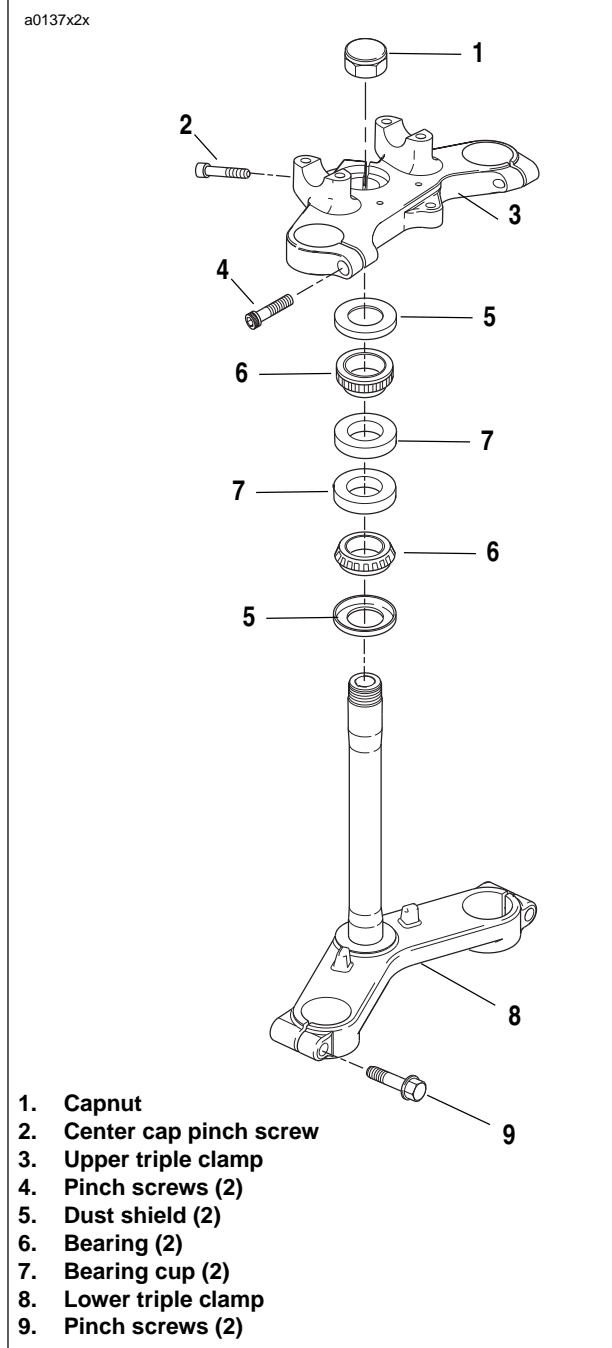

Figure 2-99. Fork Stem and Bracket Assembly
7. See Figure 2-99. Remove screw (2) and capnut (1).
8. Support lower triple clamp (8) and remove upper triple clamp (3).
9. Remove upper dust shield (5) and upper bearing (6).
11. Remove lower bearing (6) and lower dust shield (5) from lower triple clamp.
1. See Figure 2-99. Clean the dust shields (5), bearing cups (7), fork stem and lower triple clamp (8) and frame with solvent.
2. Carefully inspect bearing races and assemblies for pitting, scoring, wear and other damage. Replace damaged bearings (6) as a set (5, 6 and 7).
3. Check the fork stem and lower triple clamp (8) for damage. Replace if necessary.
2. See Figure 2-99. Liberally coat the bearings (6) with grease using WHEEL BEARING PACKER TOOL (Part No. HD-33067). Work the grease into the rollers.
- a. Place lower bearing dust shield (5) over fork stem.
- c. Press bearing (6) with small end up onto fork stem and lower triple clamp (8). Use the pipe as a press-on tool.
4. Insert lower triple clamp (8) through the steering head. Install the upper bearing (6) with small end down and dust shield (5) onto fork stem.
5. Apply LOCTITE 243 (Blue) to fork stem. Loosely install upper triple clamp (3) using cap nut (1).
7. Tighten cap nut (1) until the bearings have no free play. Make sure the fork stem turns freely.